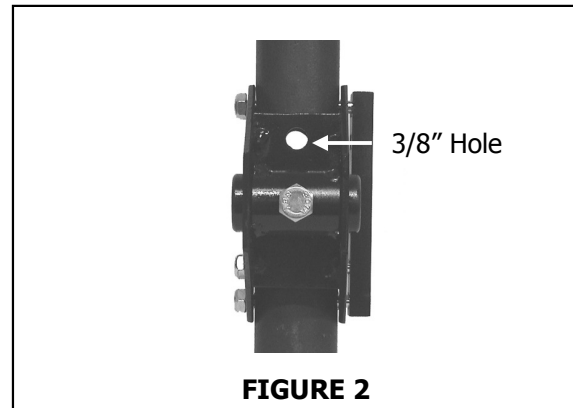

FIGURE 2
3. Drill a 3/8" hole through the top part of the tube only, using the lower support as a template. See figure 2.